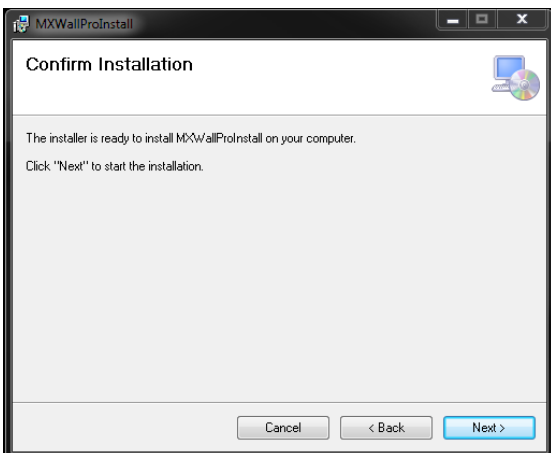

Figure 8-3
3. You will be asked to confirm the installation. Click 'Next>' to continue. (Figure 8-3)